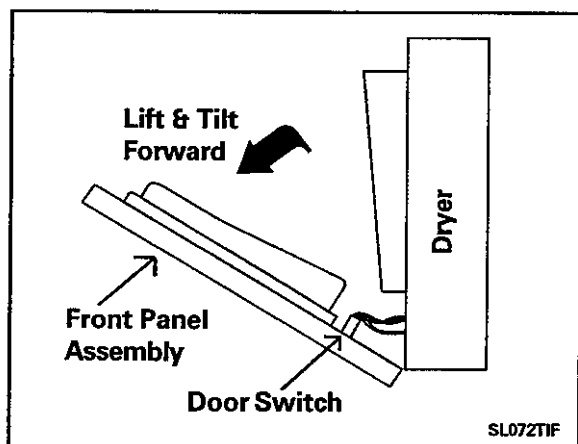

Figure 9-4
- Remove the two 5/16" hex head screws located in the top right and left front corners of the front panel (*Figure 9-4*).
- Tip the top of the front panel forward and slightly lift the front panel at the same time. Then remove the wires from the door switch (*Figure 9-4*).